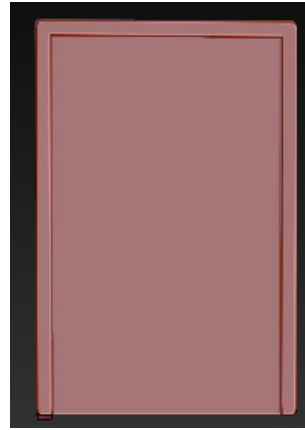

Figure 3-99 Frame created for the door
6. Draw two more lines on the top and right side of the *door* to create the frame, as shown in Figure 3-99.